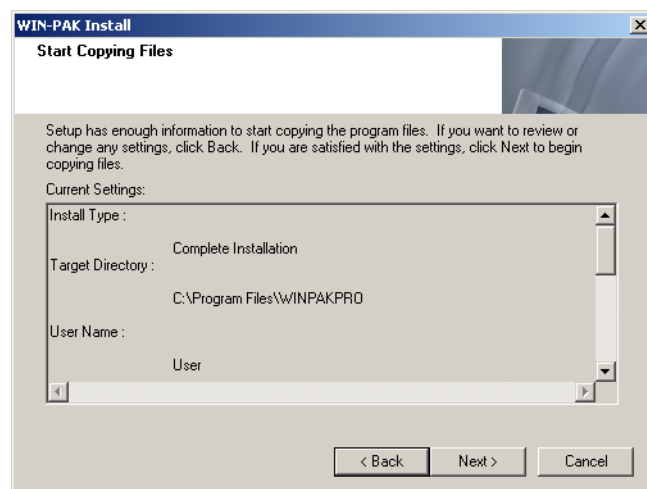

Figure 2-15 Start Copying Files
- Click **Yes** to place icons on your desktop. **Figure 2-15** summarizes the selected information.